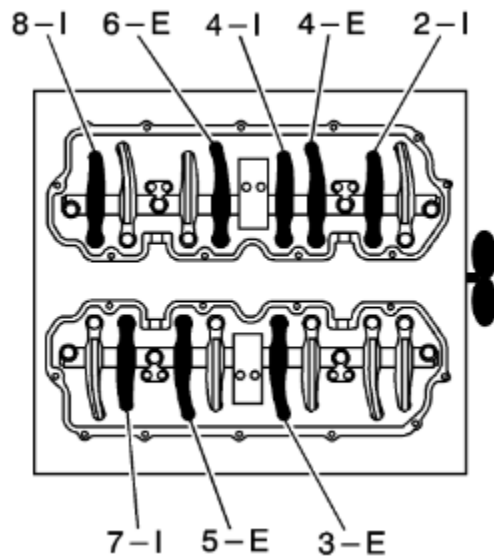

Fig. 75: Valves adjusted with cylinder one at exhaust stroke TDC
- c. Rotate the crankshaft to bring cylinder 1 to top dead center on its exhaust stroke. Repeat step 6b on the valves shown in figure 75.